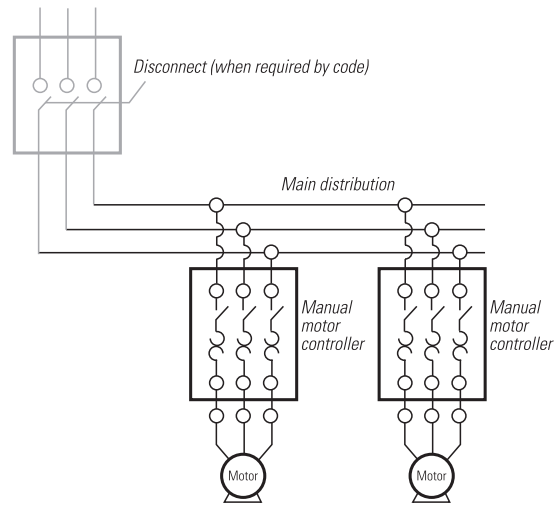

Figure 3A
Surion GPS1BH\* and GPS2BH\* Manual Motor Starters may be used as combination starters (UL508 Part IV) and have been evaluated by UL as manual self-protected combination motor starters (Type E) for applications 277/480 and below. They provide coordinated branch circuit short circuit protection consistent with Section 430-52(c) (6) of the NEC; a disconnecting means consistent with Section 430-109 (a) (5); a motor starter and coordinated motor overload protection (see Figure 3A). These starters may be used for controlling motors without additional upstream branch circuit protection. They may be used in place of branch devices in motor circuits only. When used in panels with multiple motor circuits, a main circuit disconnect is required in sight and within 50 feet for the protection of service personnel.